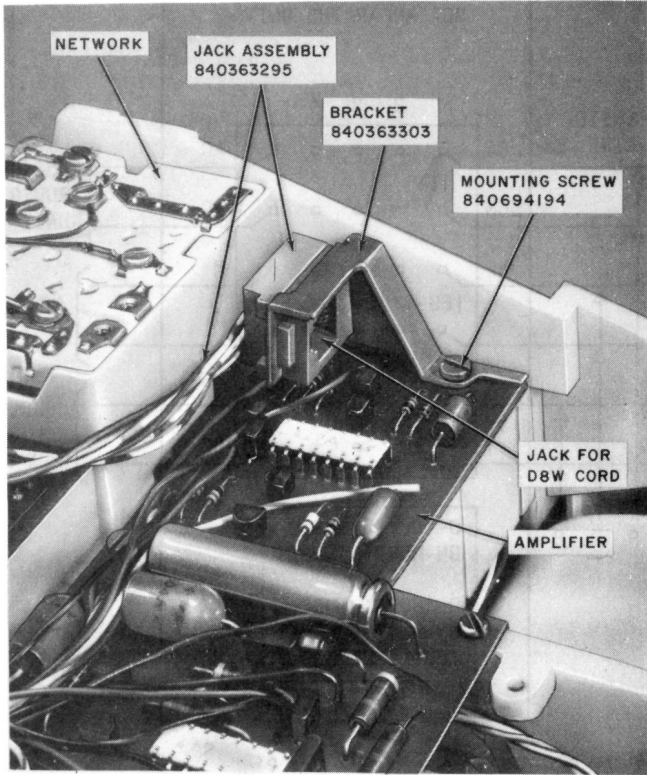
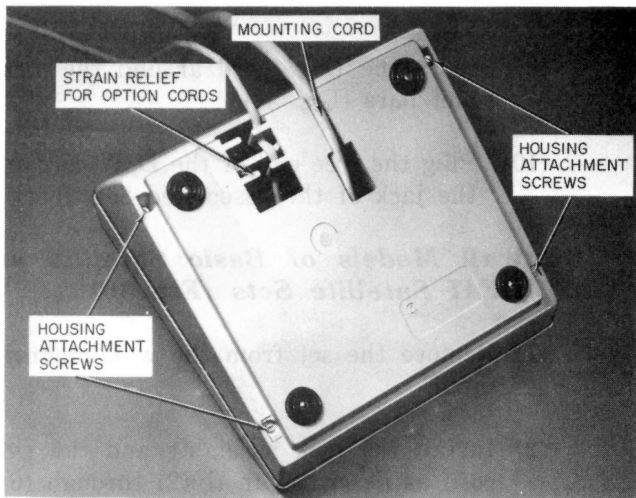

Fig. 37—Installation of Personal Line Jack Assembly
Fig. 38—Basic Satellite Desk Set, Bottom View
- (3) Install the jack assembly as described in 3.54(a)(3).
- (4) Replace the DSS key (5.24) and the faceplate (5.09).
- (5) Turn the set over and attach the modular jack to the chassis at the edge of the amplifier with the bracket and screw from the kit of parts (Fig. 37).
- (6) Plug one end of the D8W cord into the modular jack installed in (5).
- (7) Run the other end of the cord through the option cord opening in the lower housing (Fig. 38).
- (8) Reassemble the lower housing to the telephone set.
- (9) Secure the D8W cord around the strain relief bars (Fig. 38).
- (10) Plug the free end of the D8W cord into the jack of the associated 86A block.
(p) Reassemble lower housing to the telephone set (5.15). Secure the speakerphone cord around the strain relief bars in the lower housing (Fig. 38).
(i) Reassemble the telephone. Secure the cord around the strain relief bars in the lower housing (Fig. 38). Excess cordage can be tucked into the telephone set.